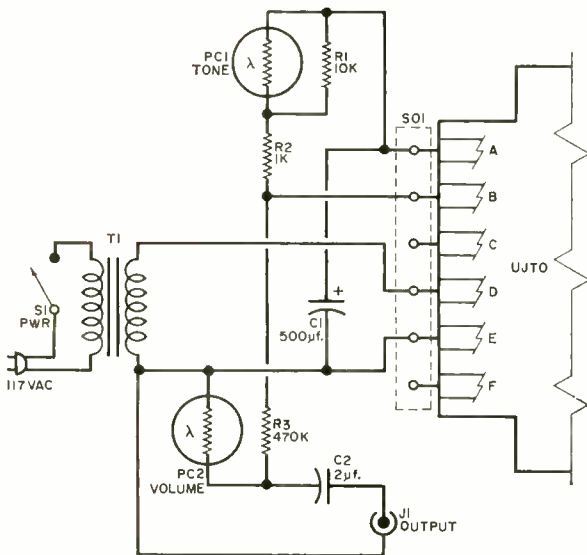
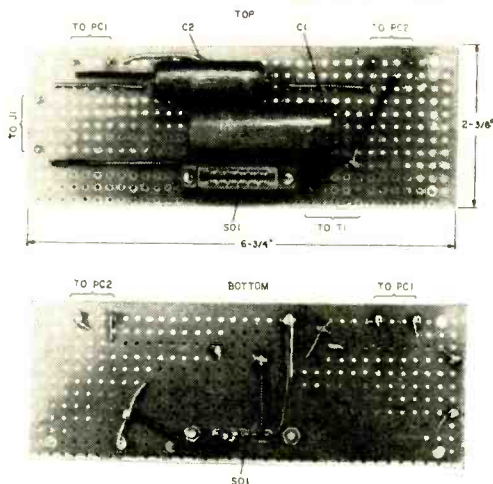

Fig. 2. Diagram of power supply and timing network shows wiring connections to UJTO plug-in module.
Fig. 6. Phenolic board showing components mounted on one side (top) and wiring details on other side.
**The Other Components.** Now, let's look at the rest of the Lumemin's circuit (Fig. 2). The major components are an isolating transformer (*T1*) and photocells *PC1* and *PC2*. Photocell *PC1* is part of the UJTO's timing network. It is shunted by *R1*, and this shunt combination is in series with *R2*. Therefore, *PC1* serves as the external frequency control resistor. As *PC1*'s resistance changes with different light intensities, corresponding changes take place in the UJTO's frequency. Thus, the instrument's tone is controlled essentially by *PC1*.
sawtooth signal appears between terminals *B* and *E*. It can be seen from Fig. 2 that this signal appears across *R3* and *PC2* which are in series. The signal across *PC2* is coupled through *C2* to output jack *J1* which feeds an audio amplifier. Operation of *PC2* is such that its resistance decreases with the intensity of the light shining on it. Therefore, the amplitude of the output signal is directly proportional to *PC2*'s instantaneous resistance, and thus inversely proportional to the light falling on the device. Accordingly, maximum volume is obtained with reduced lighting, while a strong light produces little or no output.
You can now begin to assemble the electronic components on the phenolic board as shown in Fig. 6. On one side of the board, mount the Cinch-Jones socket (*SO1*), and capacitors *C1* and *C2*, as shown in the top view. Wire the other side of the board as shown in the lower view. Refer to Fig. 2 for detailed wiring information.
The only thing left for you to do is to plug the UJTO module (Fig. 7) into socket *SO1* (Fig. 6), and mount the electronic component board on the chassis using four standoff spacers (Fig. 5). Be sure to insert the module with the foil side facing the chassis rim. Then complete the interconnection wiring.